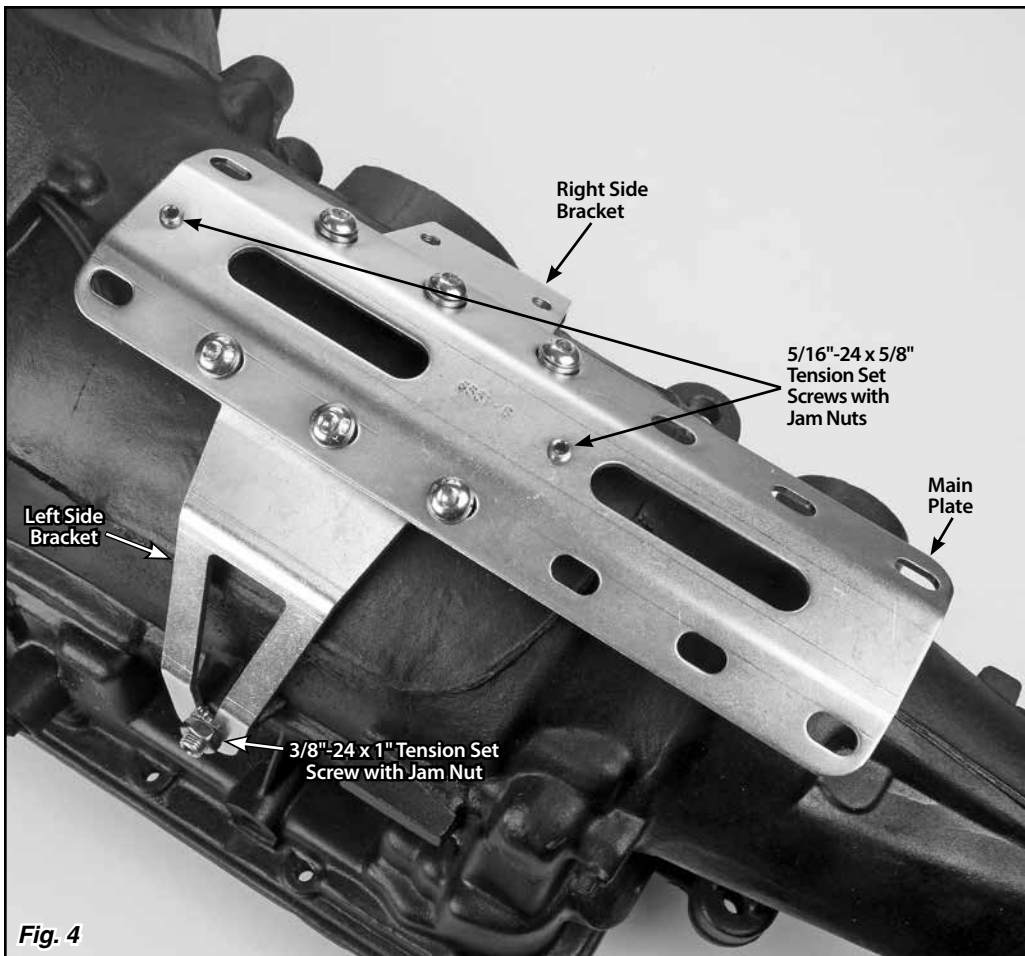

Fig. 4
Step 5: Set the mounting bracket assembly into place on top of the transmission. **Fig. 4** Install the 3/8"-24 x 1" tension set screws through the side brackets into each side mounting button, but do not tighten.